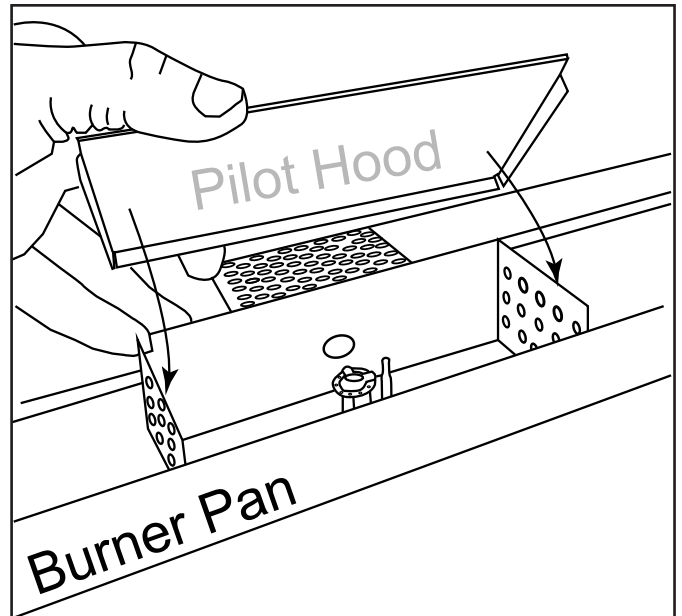
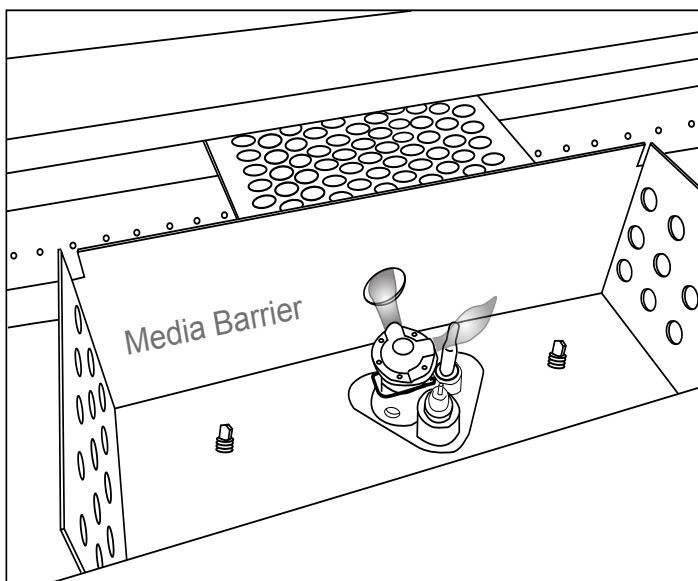
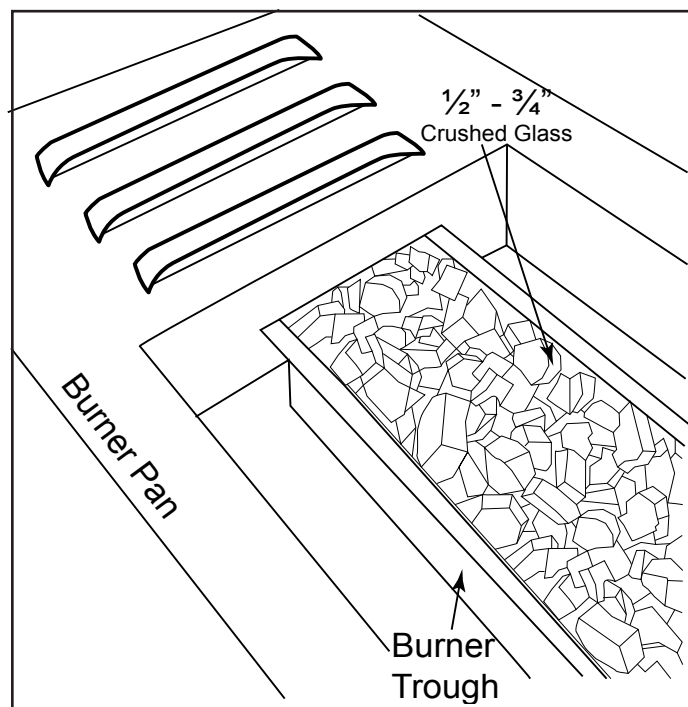
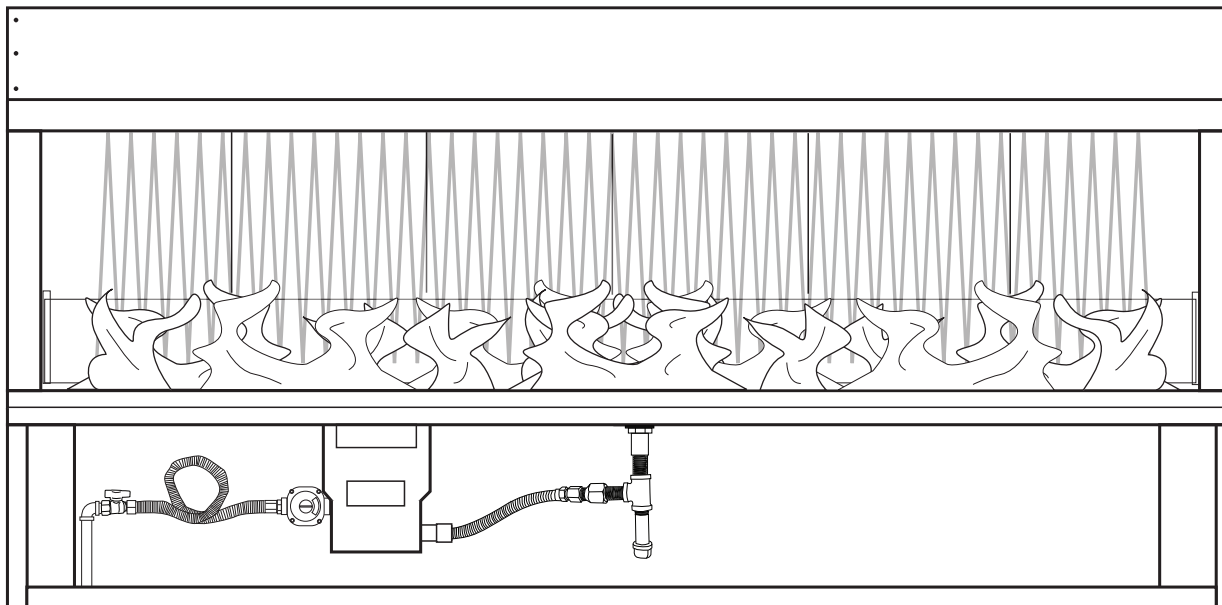

Figure 32 Pilot hood installing over top of pilot box.
Figure 34 Proper pilot flame through ignition hole.
Figure 35 Installing media into the fireplace.
Figure 41 Proper flame height.
Remove the plastic film from the pilot hood and place hood on top of the pilot box as shown in *Figure 32*.
Step 22: Place pilot hood on top of the pilot box and ensure it sits flat, providing ventilation for the pilot at the front edge of the burner pan. See *Figures 32 and 33*.
Step 24: Open the media box and install the glass media as shown in Figures 34 - 36. Place media fireglass into the trough area first as shown in Figure 35. Use the remaining media to fill the burner pan equally on both sides. Install only one layer over top of the ignition screen (Figure 32), just enough to camouflage it.
Proper flame height (*Figure 41*) should be at the top edge of glass windshield (peaking above at times) while on HI setting. Note: Glass windshield is 7-inches tall. The LO setting will be at least half of the height of HI or maybe lower. There can be a variance in flame height between Natural Gas and Liquid Propane (LP) Gas models.
Inspect Burner Flame and Pilot Flame Appearance Periodically do a visual check of the burner flame and the pilot flame. Ensure that the burner flame appearance resembles the flame shown in *Figure 41, Page 27*. Refer to *Figure 34 on Page 24* for more information about the pilot flame appearance. Contact a qualified service technician at once if any abnormal condition is observed.